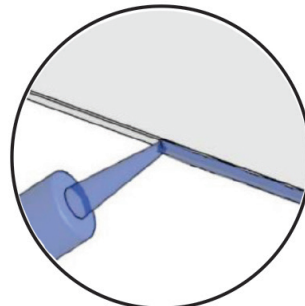

FIG 26.
- Remove shelf and put a thin bead of adhesive down both edges of shelf (**FIG 26**).